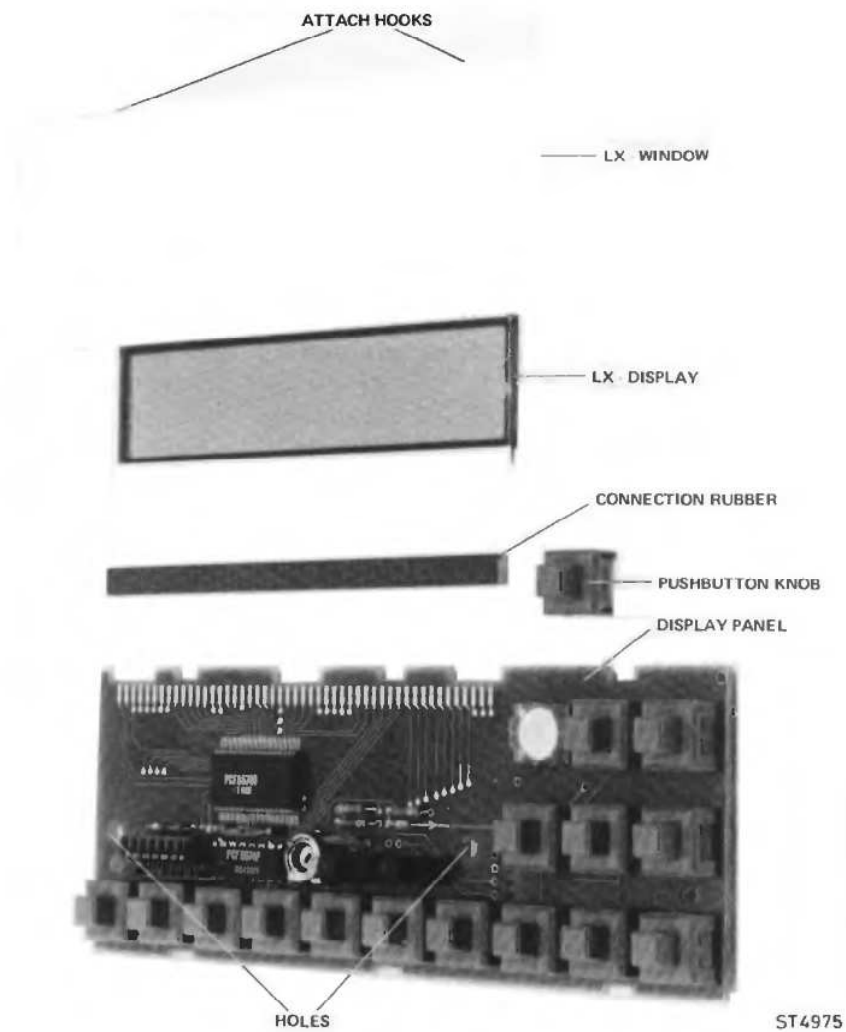

Figure 6.2
- Push the attach hooks out of the holes at the component side of the PCB and lift the LCD display from the PCB (see figure 6.2).
The assembly of the display consists of four main parts (figure 6.2). All parts can be replaced seperately.